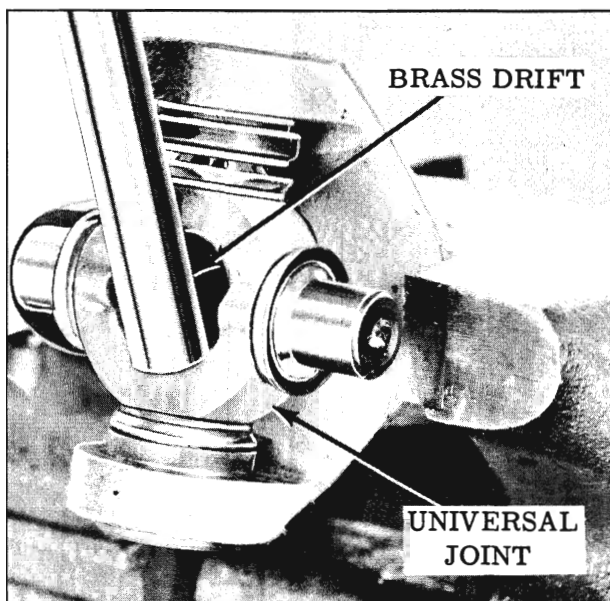

Fig. 6-150 Removing "U" Joint
8. Drive on spider until bearing is partially forced out of yoke. (Fig. 6-150)